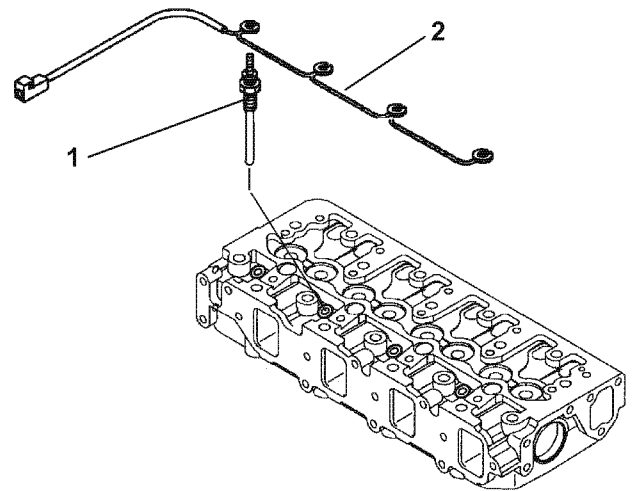

Figure 6-37
6. Install each glow plug (Figure 6-37, (1)), and tighten it with the specified torque. Install each electrical harness (Figure 6-37, (1)), and tighten it with the specified torque.